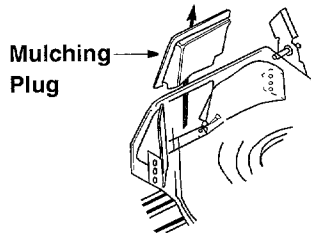

Figure 5
- Lift the chute door on the mower. Remove the mulching plug as shown in Figure 5.